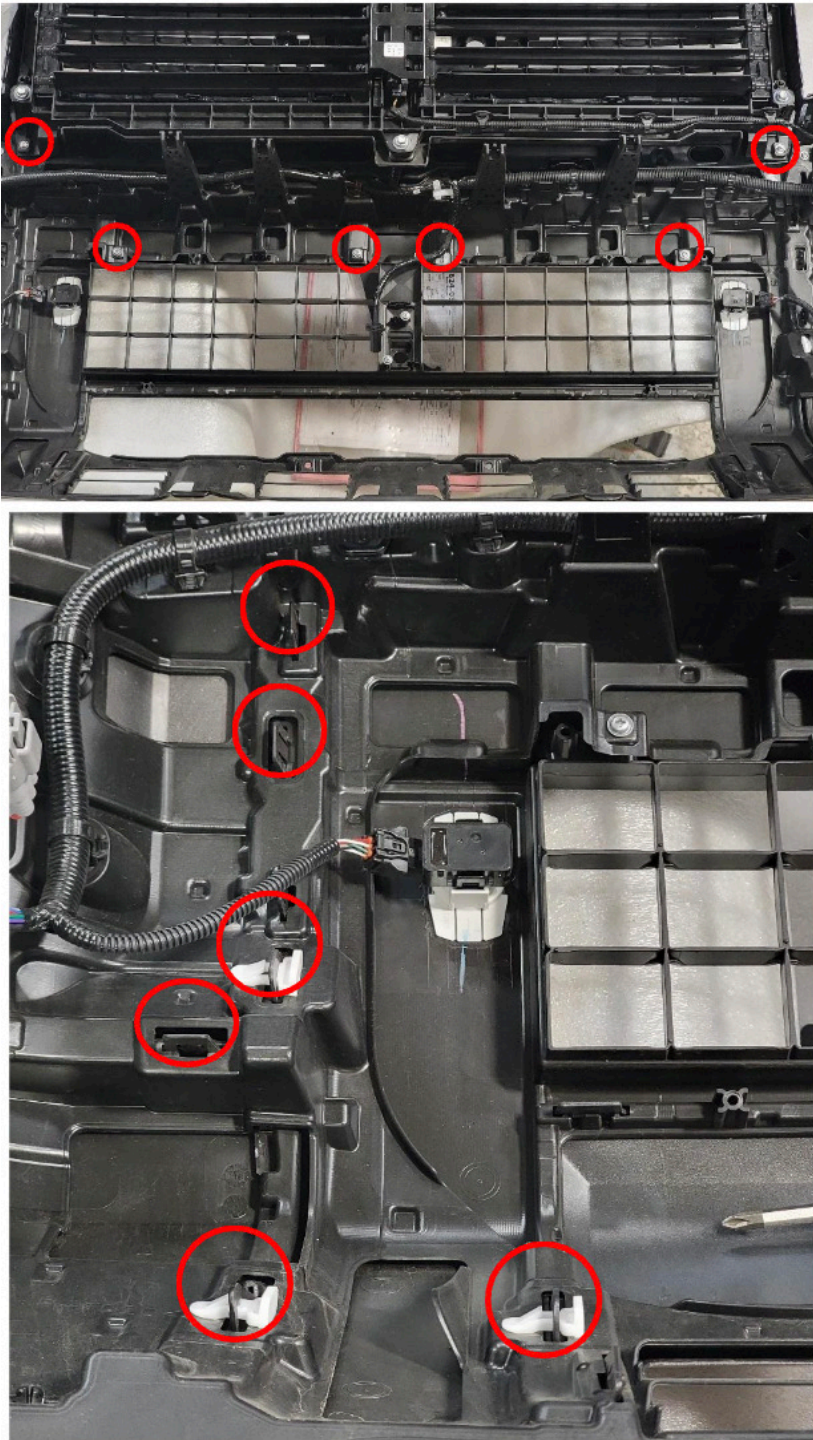

Figure 19-20
16. Using a Phillips head screwdriver and panel pry tool, remove the center mesh fascia from the bumper by removing the five (5) Philips head screws above the mesh, the six (6) white retaining clips and six (6) black tabs. Figure 19-20.